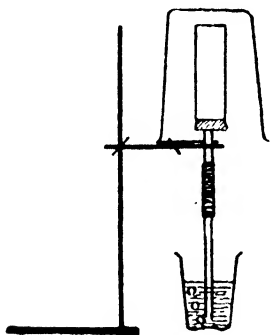

FIG. 56.
- (a) Take a large beaker or a large glass jam jar and fill it with coal gas by holding it for a few seconds *above* a turned on, unlit gas jet. This is called collecting a gas by *upward displacement*. Hold the jar or beaker, mouth downwards, over the porous pot, as in Fig. 56.